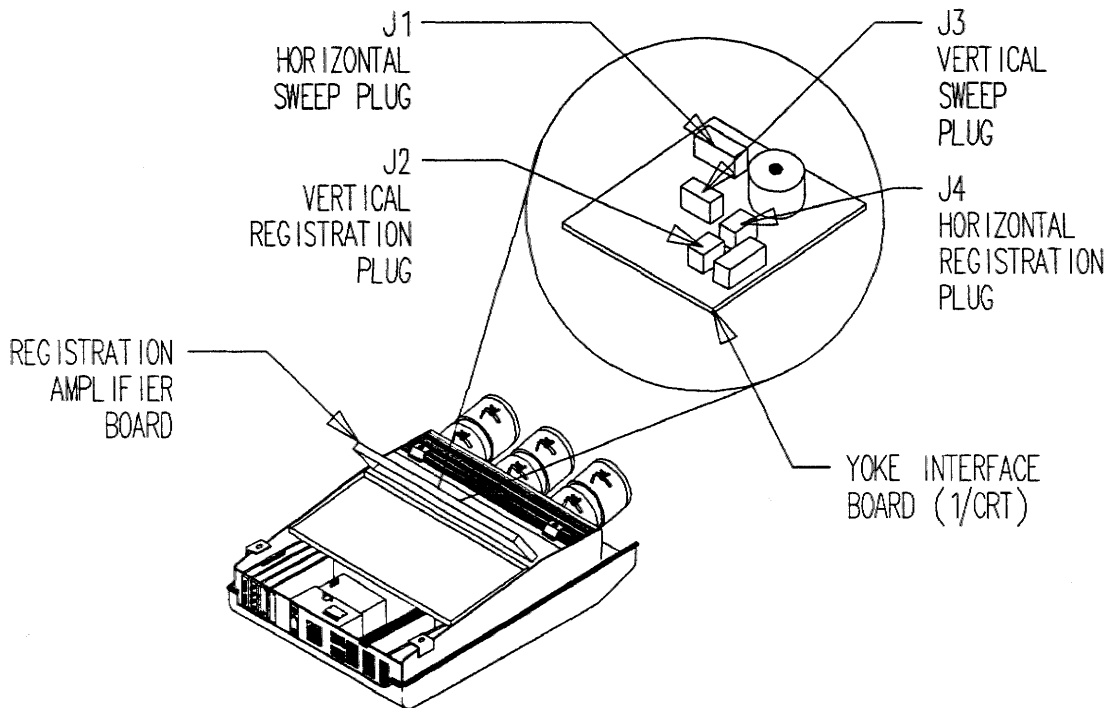

FIGURE S1-2.
- STEP 3. HORIZONTAL SWEEP REVERSAL: is accomplished by reversing the horizontal sweep connectors on the Yoke Interface board(s). Pull the horizontal sweep plug (P-1) out of (J-1), turn it end for end (180°) and plug it back into (J-1). Remove the horizontal registration plug (P-4) from (J-4), turn it end for end (180°) and plug it back into (J-4). Refer to Figure S1-2.
- STEP 2. Unlock and tilt up the Registration Amplifier board, which is across the front of the system directly behind the lenses. The three Yoke Interface boards under the Registration Amplifier board are now exposed. See Figure S1-2.
- STEP 3A. On the Yoke Interface board, locate and pull the vertical sweep plug (P3) out of (J3), turn it end for end (180°) and reinsert it into (J3). See Figure S1-2.
- STEP 3B. Again on the Yoke Interface board, pull the vertical registration plug (P2) out of (J2), turn it end for end and reinsert it into (J2). See Figure S1-2.